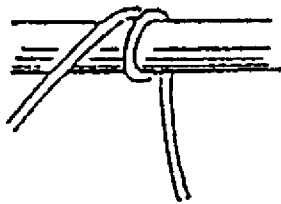

Fig. 3-30-1
- a. Hold the standing part of the rope in your left hand and the end in your right. Wrap the end twice around the spar. (Fig. 3-30-1)